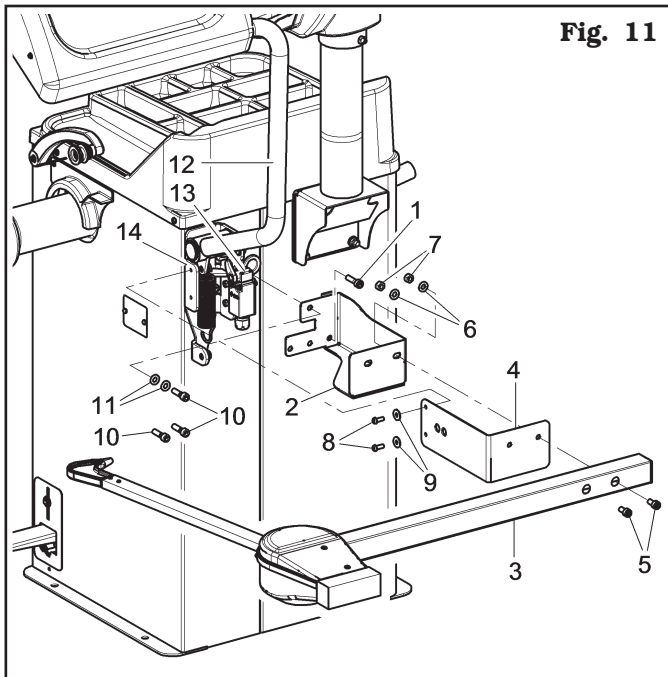
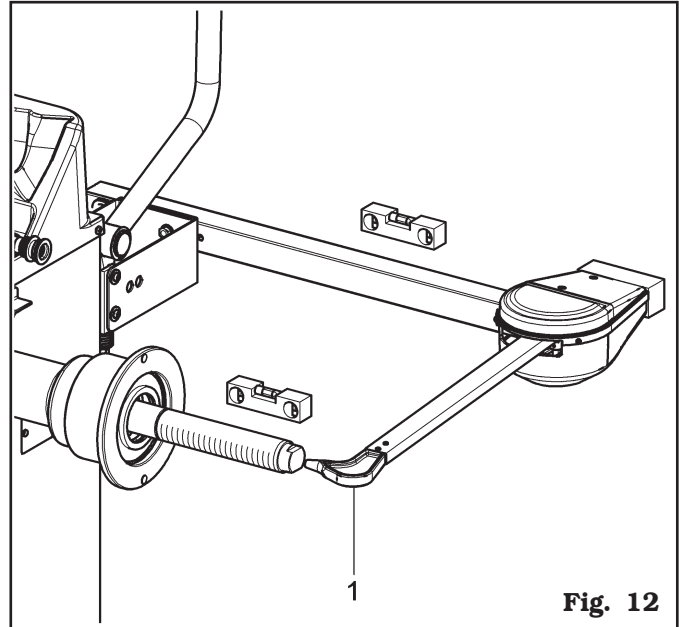
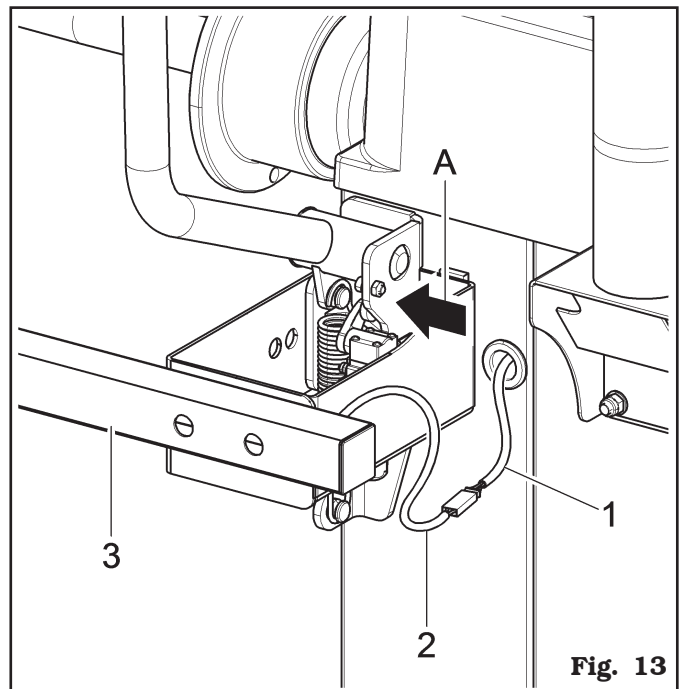

Fig. 11
Fig. 12
Fig. 13
1. Remove the protection guard (**Fig. 11 ref. 12**), if already present.
2. Unscrew the screws (**Fig. 11 ref. 10**) and the washers (**Fig. 11 ref. 11**) from the wheel cover support, being very careful about holding the same support. Insert the gauge bracket (**Fig. 11 ref. 2**) into the lateral slot of the wheel cover support (see **Fig. 13 ref. A**).
3. If necessary, remove the microswitch (**Fig. 11 ref. 13**) so that it is possible to reach the fixing screws more easily.
4. Fit the fixing screw (**Fig. 11 ref. 1**) and screws (**Fig. 11 ref. 10**), previously unscrewed, into the gauge bracket (**Fig. 11 ref. 2**) then screw the assembly to the threaded rivets placed on the rear part of the frame, without using the previously unscrewed washers (**Fig. 11 ref. 11**). Fix bracket (**Fig. 11 ref. 4**) to the support guard (**Fig. 11 ref. 14**) with the screws (**Fig. 11 ref. 8**) and the washers (**Fig. 11 ref. 9**). Lock the gauge arm (**Fig. 11 ref. 3**) to the brackets (**Fig. 11 ref. 2-4**) using the 2 screws (**Fig. 11 ref. 5**), the washers (**Fig. 11 ref. 6**) and the nuts (**Fig. 11 ref. 7**), so that the shaft and the gauge arm are levelled (see **Fig. 12**).
5. Also make sure the gauge tip (**Fig. 12 ref. 1**) is positioned APPROXIMATELY at the centre of the chuck.
6. Connect connector (**Fig. 13 ref. 1**) of the cable coming from inside the machine to connector (**Fig. 13 ref. 2**) of the cable coming from the gauge arm. Fit the section of the cable with the connectors inside the arm (**Fig. 13 ref. 3**).
9. Remount microswitch (**Fig. 11 ref. 13**), if previously removed.
10. Fit the protection guard (**Fig. 11 ref. 12**), as described in Par. 9.3.2..